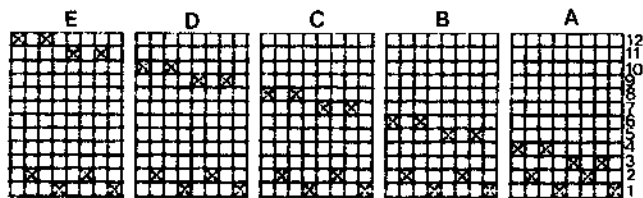
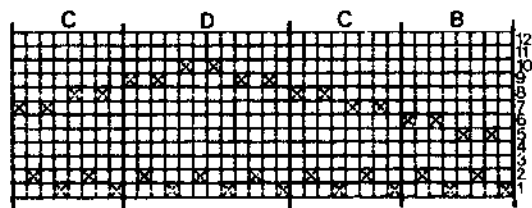

FIGURE 1
FIGURE 2a
Fig. 1 shows the threading for each block of turned Summer and Winter, giving a paired brick pattern. The plain weave ground shafts 1 and 2 carry the background yarn (natural wool) and the pattern shafts 3 thru 12 carry the blue pattern yarn. When threading blocks in ascending order (A-B-C), just thread the blocks as listed. However, when the blocks change directions (C-D-C or C-B-C), you must repeat the first 4 threads of the center block before continuing in order to balance the pattern. When threading blocks in descending order (C-B-A), switch the first 4 threads with the last 4 threads of each block. See Figs. 2a & b.
**Threading and treading:** See Figs. 1, 2 & 3.